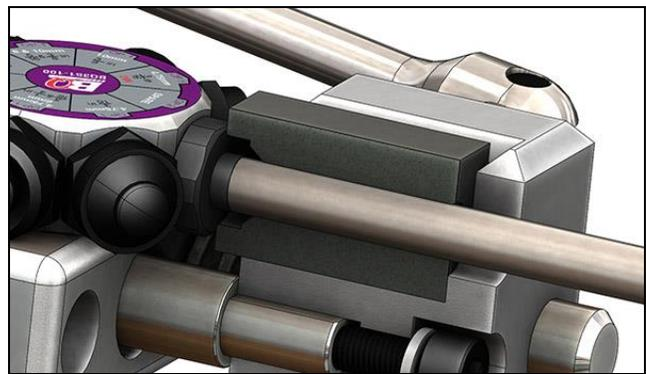

Figure 6
2. Rotate the turret so that the "Single SET" punch is aligned with the tube (**Figure 6**).